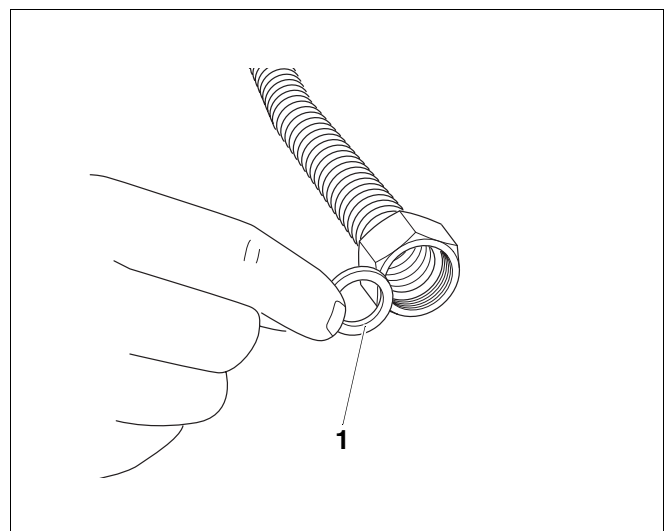

Fig. 4 Installation
- Insert the flat gasket (Fig. 4, **item 1**).